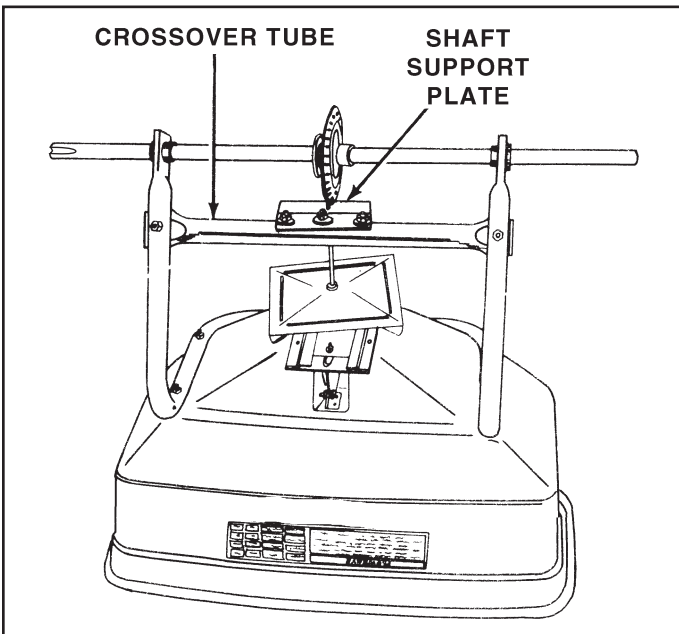

FIGURE 1
- (1) Small Hammer
STEP 1: (SEE FIGURE 1)